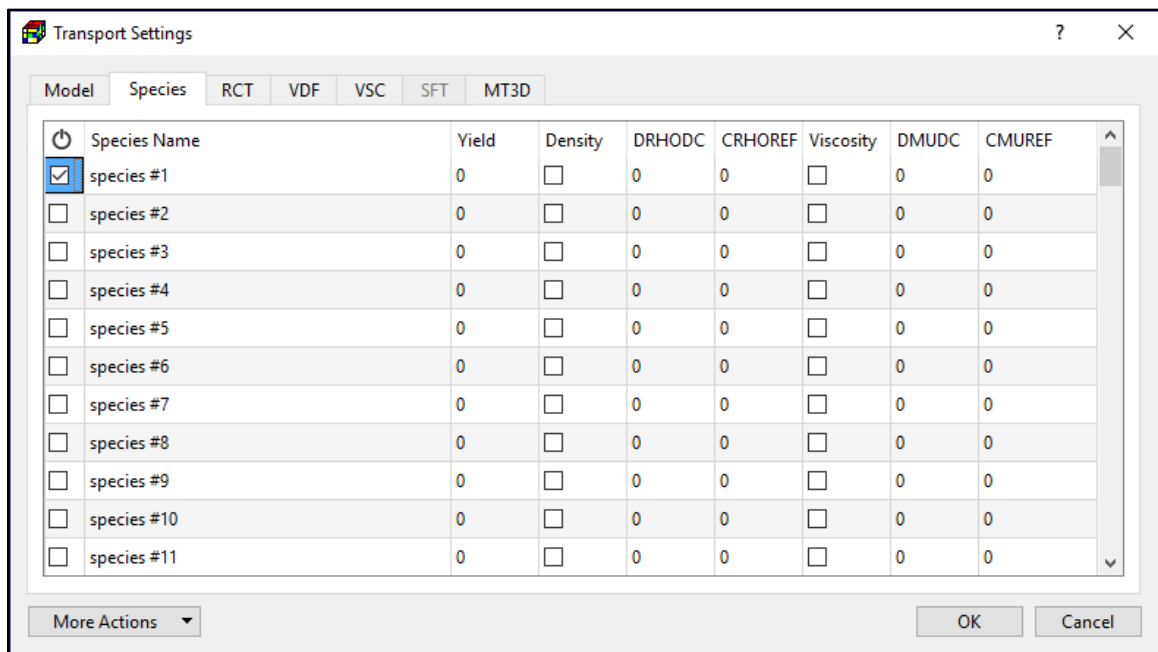

Figure 109. The Species Tab of the Transport Settings dialog box
3. **Species Tab** (Figure 109) defines the species to be used in the simulation. The table contains the species and related parameters.
- **DRHODC** is the slope that relates fluid density (ρ) to solute concentration (C), i.e., $\partial\rho/\partial C$. This is used only if the Variable Density Flow (VDF) process of SEAWAT is turned on.
where λ^k specifies the first-order reaction coefficient for species k and $Y_{k-1/k}$ sets the yield coefficient between species k-1 and k. Yield coefficients are based on stoichiometric relations between the species for which relations are specified. The yield coefficients are specified in the Species tab (Figure 109), the reaction coefficients are specified in *Models > MT3D/SEAWAT > Packages > Reaction (RCT) > First-Order Reaction Rate (Dissolved Phase)* and *Models > MT3D/SEAWAT > Packages > Reaction (RCT) > First-Order Reaction Rate (Sorbed Phase)*.